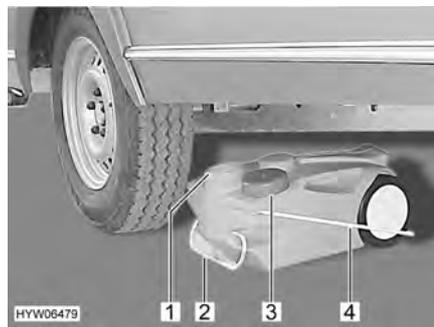

Fig. 158 Waste water tank, mobile
- Use the cap (Fig. 158,3) to close the opening of the waste water tank (Fig. 158,1).
- Use the handle (Fig. 158,2) to pull out the waste water tank.
- Fold the carrying handle (Fig. 158,4) up and upright the waste water tank.